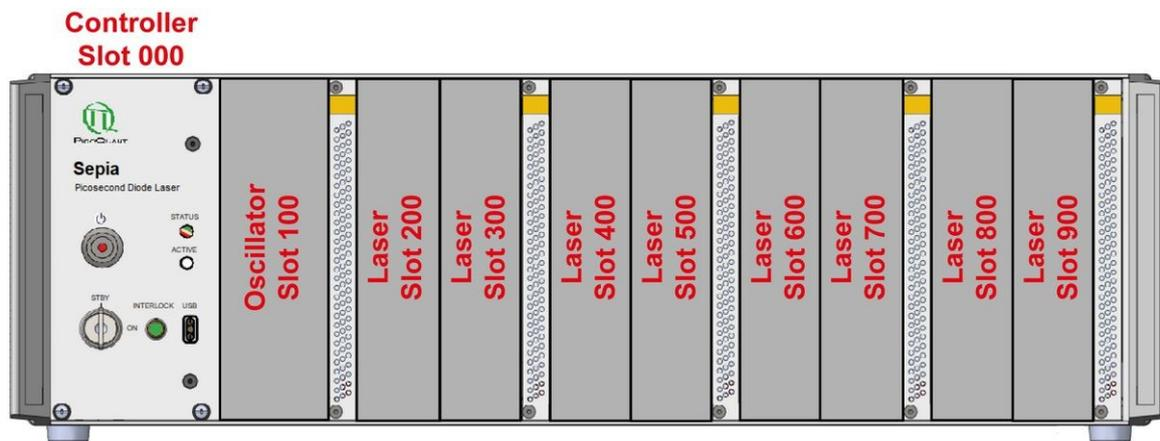

Fig. 20: Large mainframe PDL 828-L with one slot for an oscillator module and eight slots for driver modules
- Large housing– type PDL 828-L (19 inch rack): The full size rack has one slot for an oscillator module and eight slots for laser driver modules, as shown in Fig. 20.